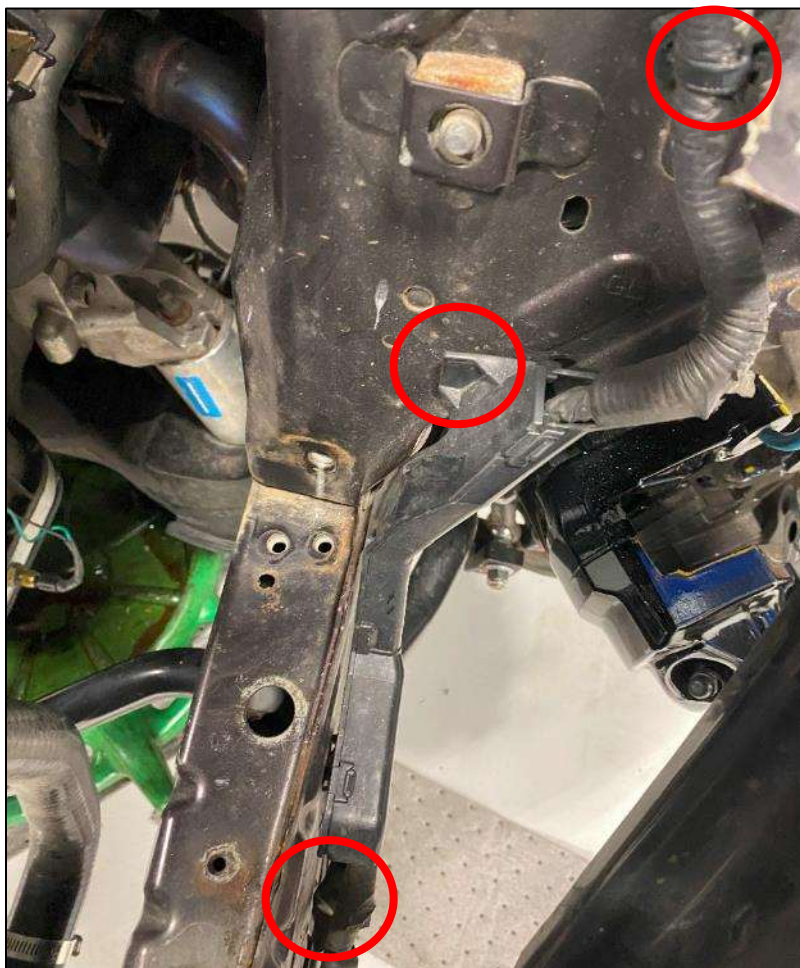

Figure 32
24. Unclip the Wiring Harness on the Driver Side Frame Rail/Shock Tower. It will need to be moved for Blower clearance. *Figure 32.*